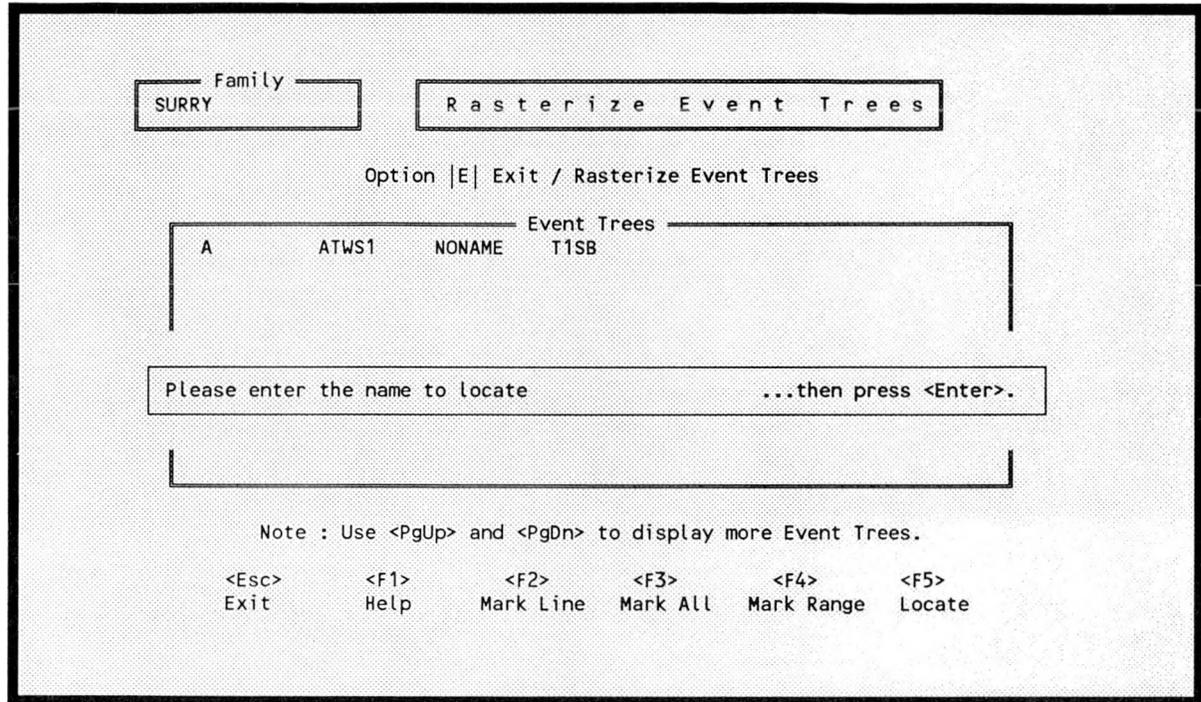

Figure 150. Locate an event tree using the <F5> key.
- <F5> - Allows you to locate a specific file for further processing. When you invoke this function, Figure 150 will be displayed. Enter the file name to locate and press <Enter>. The specified file will be highlighted.